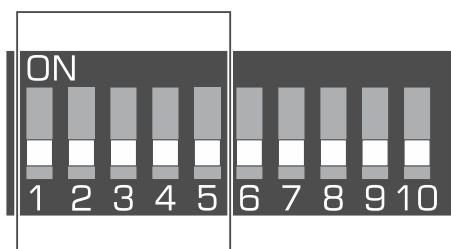

Fig. 4. Switches for setting the address of the controller in the INTEGRA system.
**Switches 1-5** (Fig. 4) are used to set the address when the controller is connected to the INTEGRA series control panel (in the other operating modes, the settings of switches 1-5 are